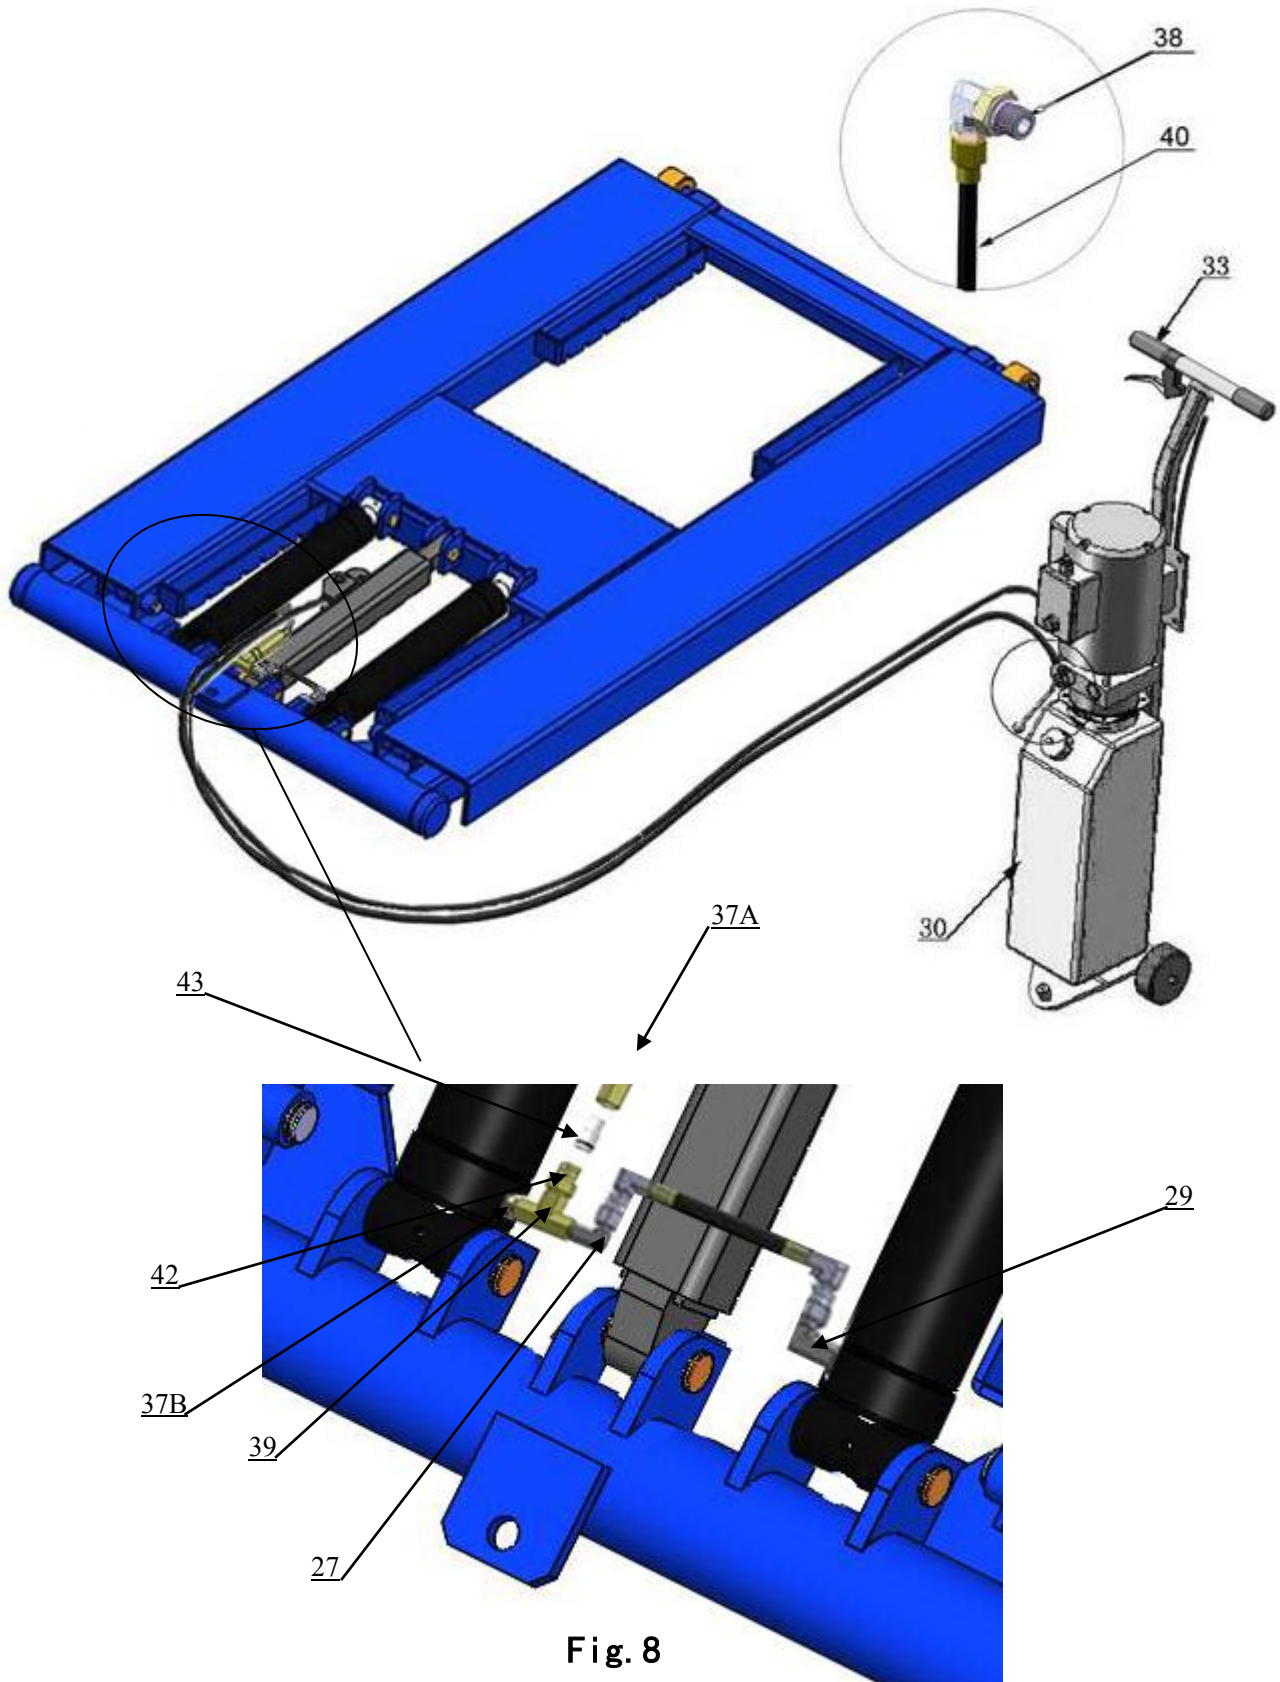

Fig. 8
C. Install oil hose (See Fig.8)